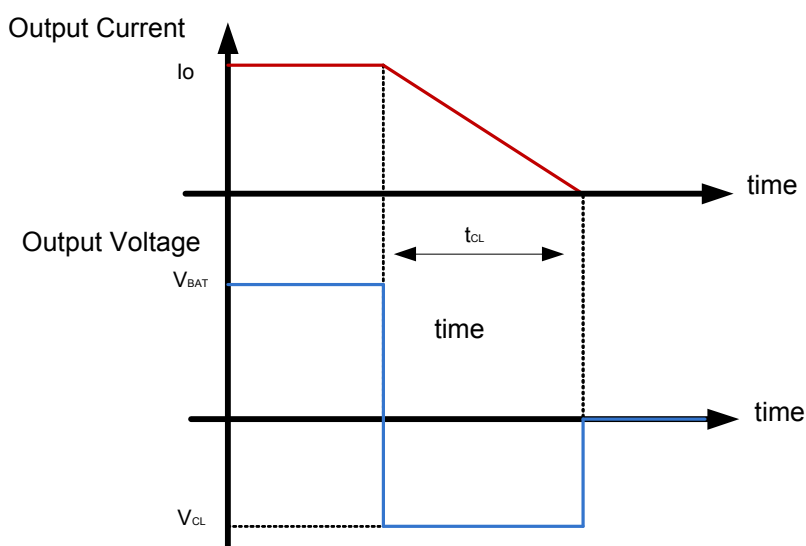

Figure 21. Simplified negative output clamp waveform
In case of an inductive load (L), the energy is dissipated after the turn-off inside the N-channel MOSFET. When $t_{\text{CL}} (= I_{\text{O}} \times L / V_{\text{CL}}) > 1.0\text{ ms}$, the turn-off waveform can be simplified with a rectangle as shown in Figure 21.